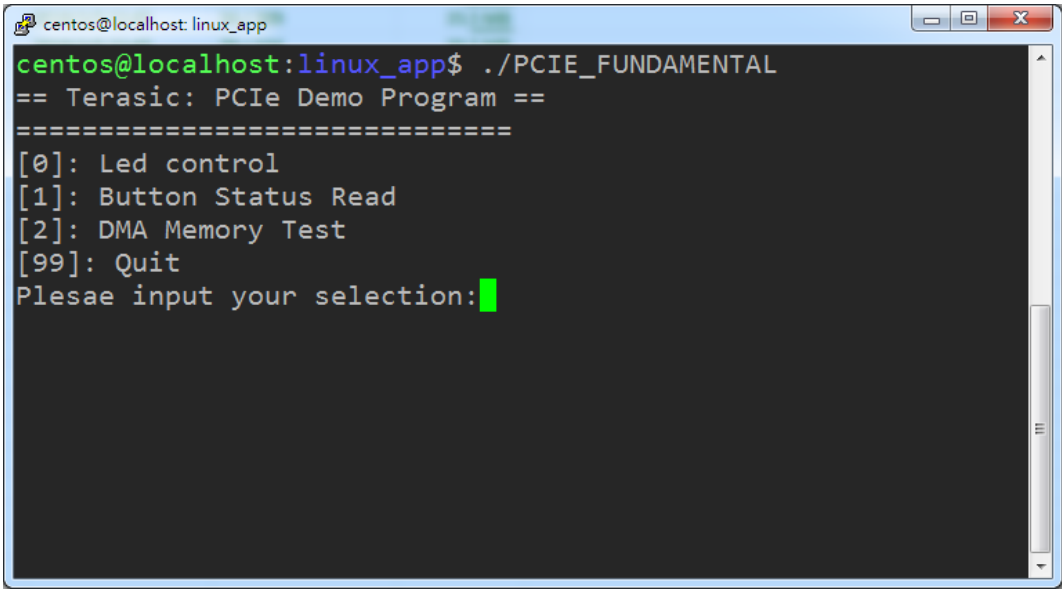

Figure 7-6 Screenshot of Program Menu
8. Goto linux_app folder, execute PCIE_FUNDAMENTAL using the following command. A menu will appear as shown in **Figure 7-6**.